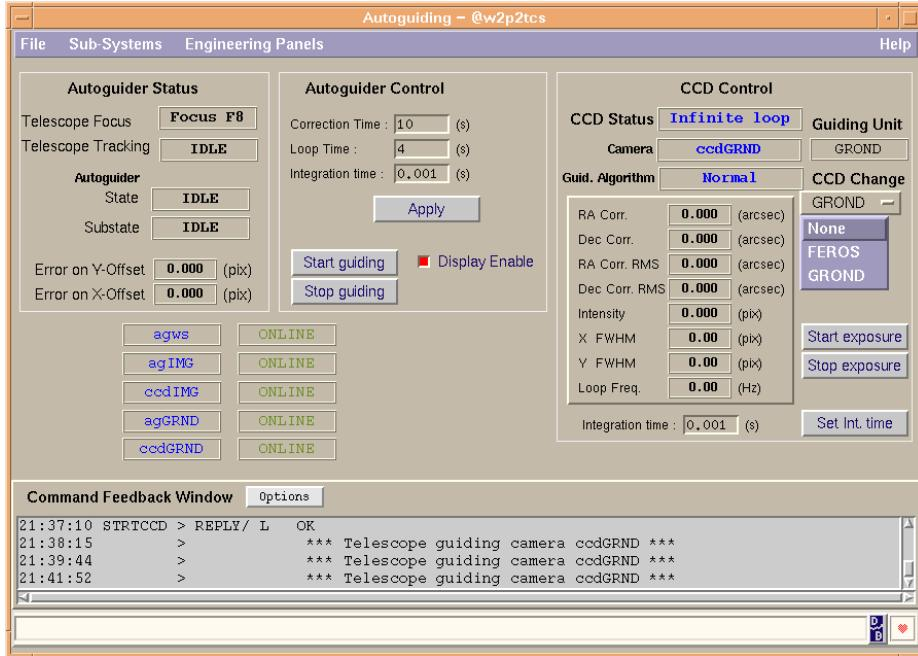

Figure 2.5: Switching between **GROND** and **FEROS** guide camera.
- b. Select GROND below `CCD change` (see Fig. 2.5, p. 32)
- b. Select FEROS below `CCD change` (see Fig. 2.5, p. 32)
Check that the **GROND** and **FEROS** guide cameras work by switching between them on the **AG** window (see Fig. 2.5, p. 32). The switching should set the camera in CCD status Infinite loop. It may be necessary to click on Start exposure after switching to obtain this status. If status is Fail, the camera must be restarted (see Sect. 10.2, p. 71).